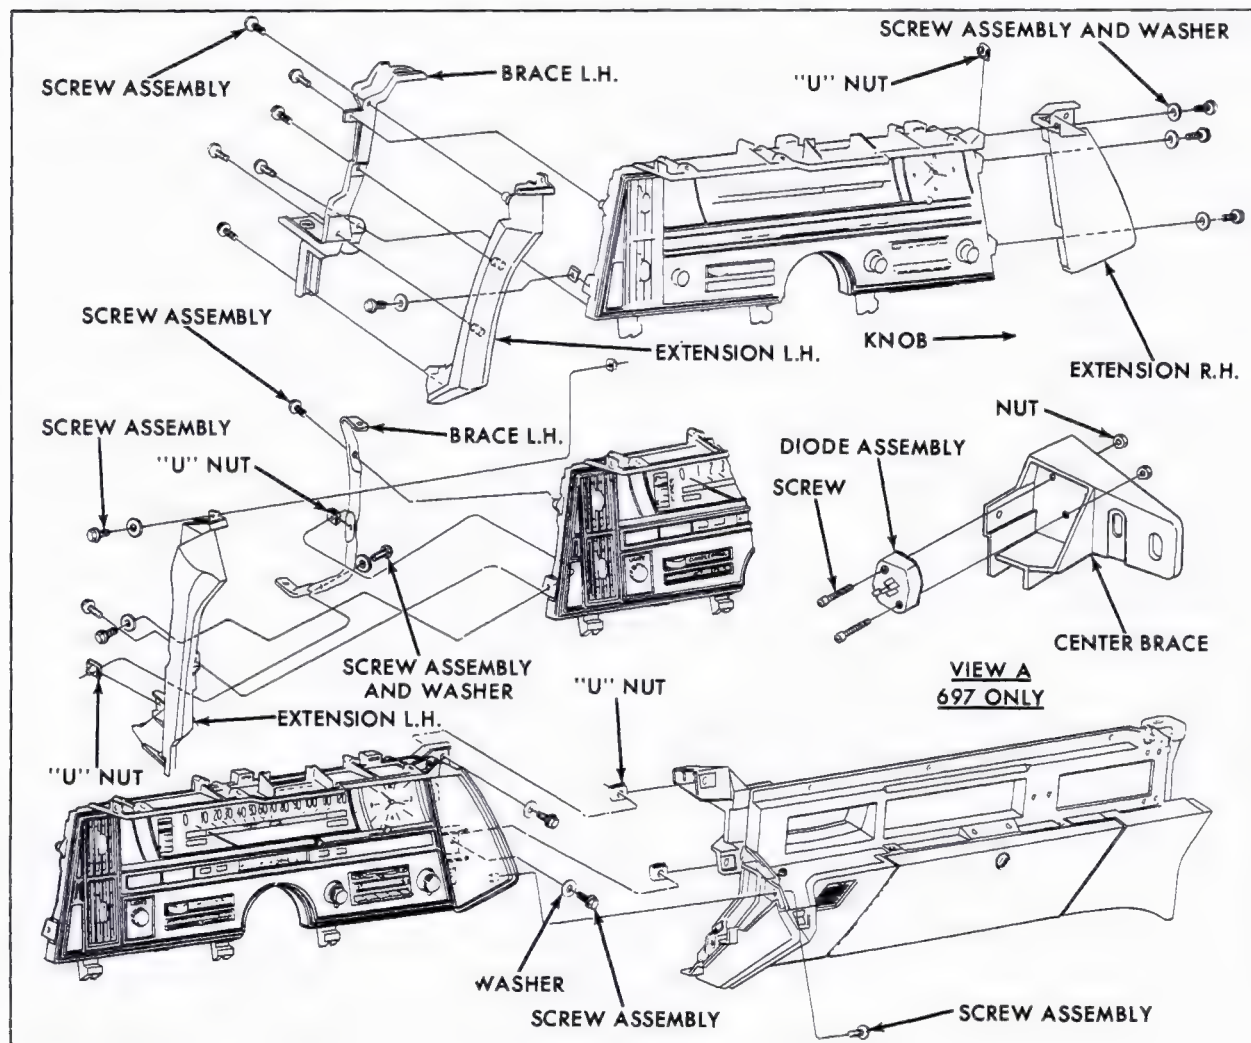

Fig. 12-40 Instrument Panel - (Bezel)
47. Instrument Panel Bezel Assembly (Fig. 12-40)
11. Remove the following screws, Fig. 12-40:
1. Place bezel assembly in position, and loosely install the following screws, Fig. 12-40:
48. Instrument Panel Bezel (Center Section) (Fig. 12-40)**a. Removal**
49. Instrument Panel Bezel Extension (Left Side) (Fig. 12-40)**a. Removal**
50. Instrument Panel Bezel Extension (Right Side) (Fig. 12-40)**a. Removal**